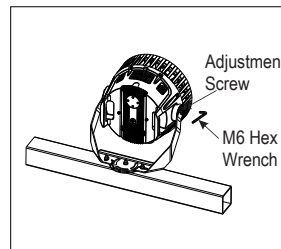

Figure 6
- To adjust the angle, loosen the adjustment screw with an M6 hex wrench (Figure 6).